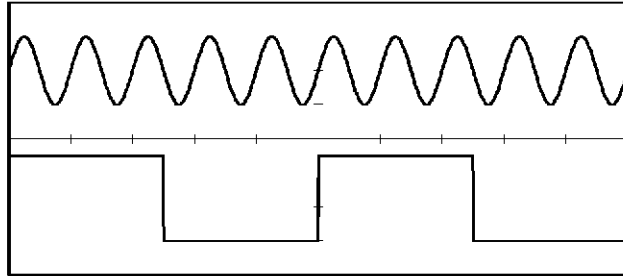

Figure 8-10 Waveform for Continuous, Positive
13. Make sure with the oscilloscope that a sine wave signal is output continuously from the rising edge of the trigger signal, as shown in Figure 8-10.